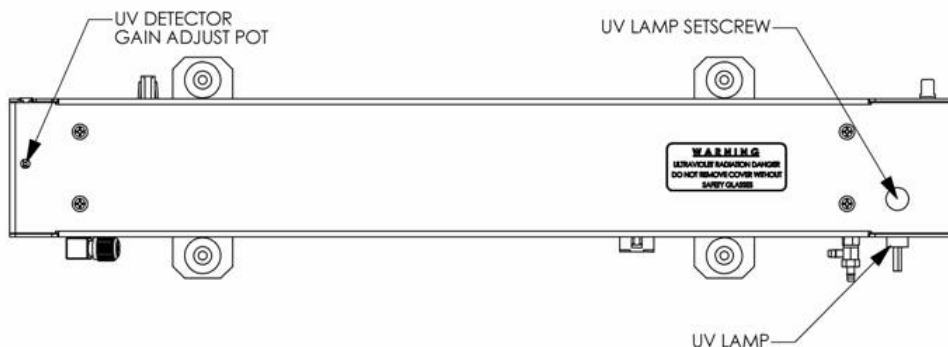

Figure 7-8. Photometer – Location of UV Detector Gain Adjustment & UV Lamp Set Screw
4. Locate the UV detector gain adjust pot on the photometer assembly (see Figure 7-8).
4. Locate the UV lamp at the rear of the bench assembly (Figure 7-8)
9. Turn the UV detector gain adjustment pot (see Figure 7-8) clockwise to its minimum value. The pot may click softly when the limit is reached.